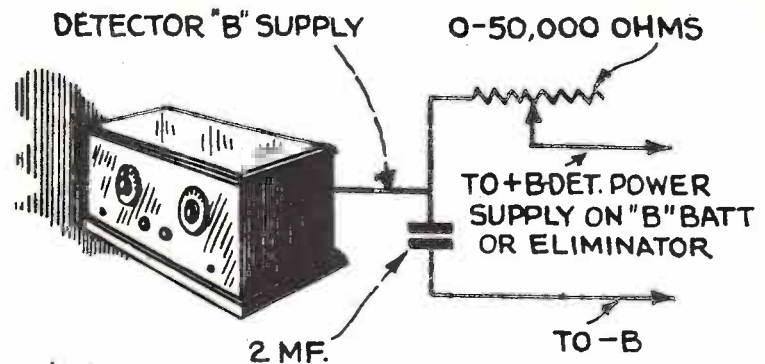

Fig. 83 - A resistor and condenser eliminates audio regeneration.
(9) Audio-Frequency Oscillation. This is partially due to the audio-frequency amplifier, but may be eliminated in many cases by correcting the detector. Audio oscillation manifests itself usually in a high-pitched squeal, caused by feed-back coupling in the "B" battery or supply circuit, from the output of the audio amplifier to the detector input. A 2-mf. by-pass condenser connected between the detector "B plus" lead and the filament will usually prevent it. An audio choke or high variable resistor connected between the power-supply lead and the condenser also helps and proves very beneficial in many cases. See Fig. 83. Changing from grid condenser - leak detection to grid-bias detection also helps in extreme cases.